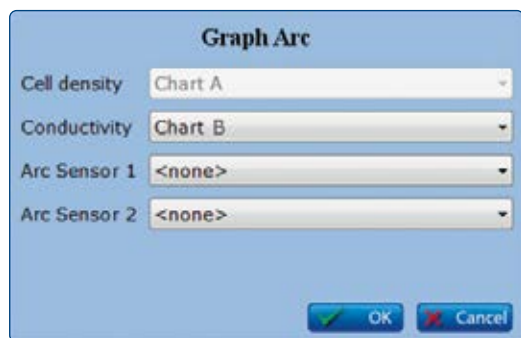

Figure 27: Graph Arc Menu.
3. Press the button Graph Arc on the bottom left hand corner of the Run Menu (Figure 11). The Arc View Controller will automatically scan for sensors. The Arc Wireless Converter MB or BT is flashing in red during this process. The Graph Arc display opens (Figure 27). The cell density measurement is set on Chart A per default.